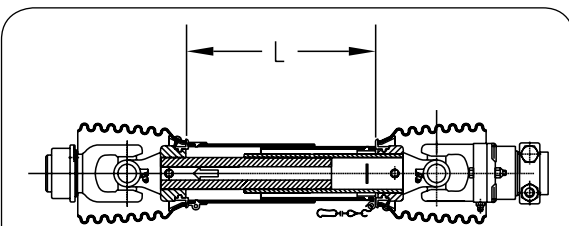

Fig. 4-36
1. Fully collapse PTO shaft and measure length "L" (Figure 4-36).